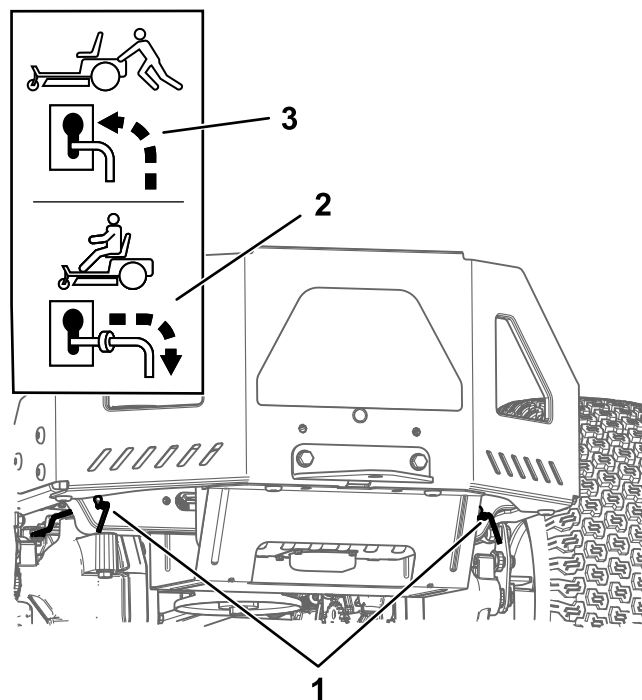

Figure 28
4. Move the bypass levers forward through the slotted hole and down to lock them in place (Figure 28).
Move the bypass levers rearward through the keyhole and down to lock them in place as shown in Figure 28.